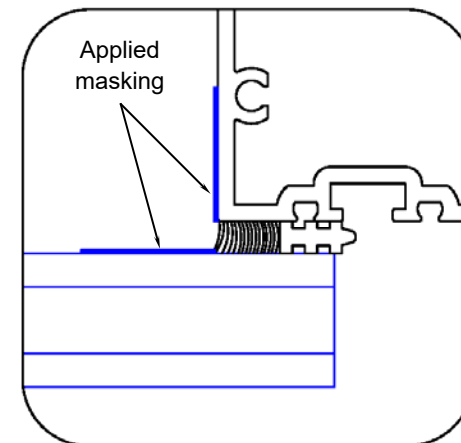

Figure 39
- Mask off the glass and vertical SSG Mullion as shown in figure 39 with masking tape to minimize cleanup.